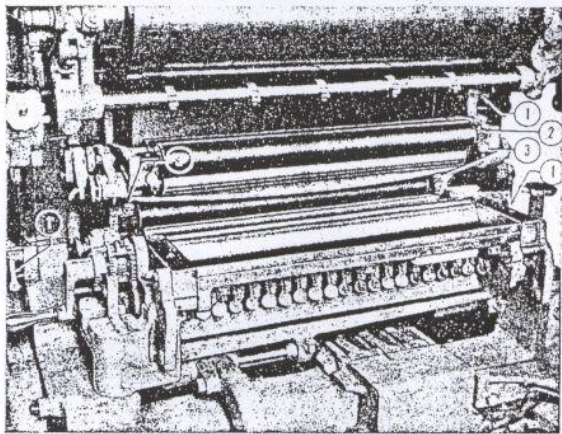

Figure 31—Form and Distributor Rollers
(3) HOW TO OPEN OR REMOVE FORM AND DISTRIBUTOR' ROLLERS.—The composition form and distributing rollers are mounted in roller boxes which attach to the form and distributing roller frames. (See figure 31.) The roller frames are so designed that the composition rollers may be lowered out of operating position. Roller lock levers, (1) figure 31, one on each end of roller frames, lock the frames in operating position.
The rollers are locked in their boxes by means of roller box keys, (2) figure 31, in the right side roller box. A roller may be removed from its box by sliding the key from the box, permitting the removal of the roller. In addition, the roller frames can be easily removed from the press by swinging the roller lock levers (1) figure 31, to their up position, permitting the roller frames to be lifted from the studs on which they mount.
(4) HOW TO ADJUST FORM AND DISTRIBUTOR ROLLERS.—Roller adjusting screws, (3) figure 31, provide for adjusting the form and distributor composition rollers for correct contact with ink table and their vibrator rollers. When the rollers are adjusted for correct contact with ink table, they will also be in correct contact with their vibrator rollers. To check for correct composition roller setting, proceed as follows:
(a) With form and distributor rollers installed on their frames, lock frames in operating position, being sure that lock levers, (1) figure 31, are in down position. (Figure 31 shows form rollers in open position.) If new composition rollers are installed, reset to proper contact by means of adjusting screws.
sition, and then examine roller impression on ink table. The impression should be approximately $3/16$ " wide the full length of roller. If impression is not correct, turn roller adjusting screw, (3) figure 31, as required.